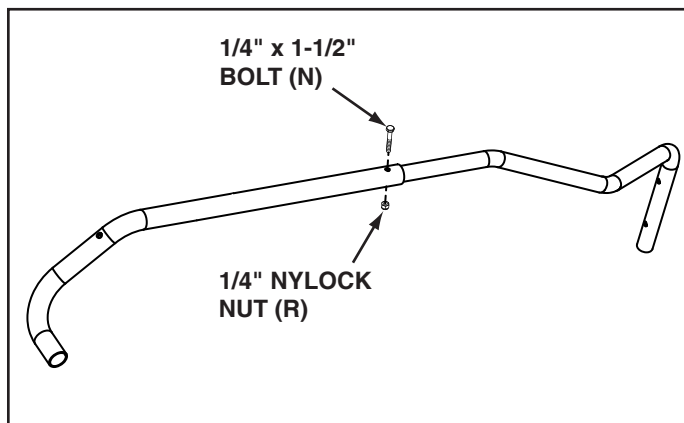

FIGURE 25
STEP 24: (SEE FIGURE 25)
- Assemble the upper lift handle onto the lower lift handle and fasten using a 1/4" x 1-1/2" bolt (N) and 1/4" nylock nut (R).